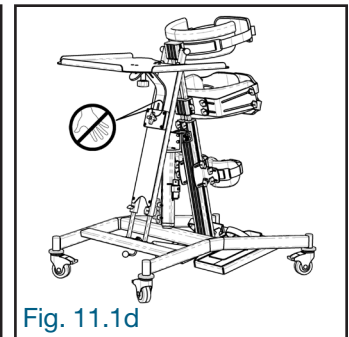

Fig. 11.1d
- When adjusting the table vertically, DO NOT place fingers and hands between the groove of the table support (A) and the slide (B) of the stabilizer platform (Fig. 11.1d).